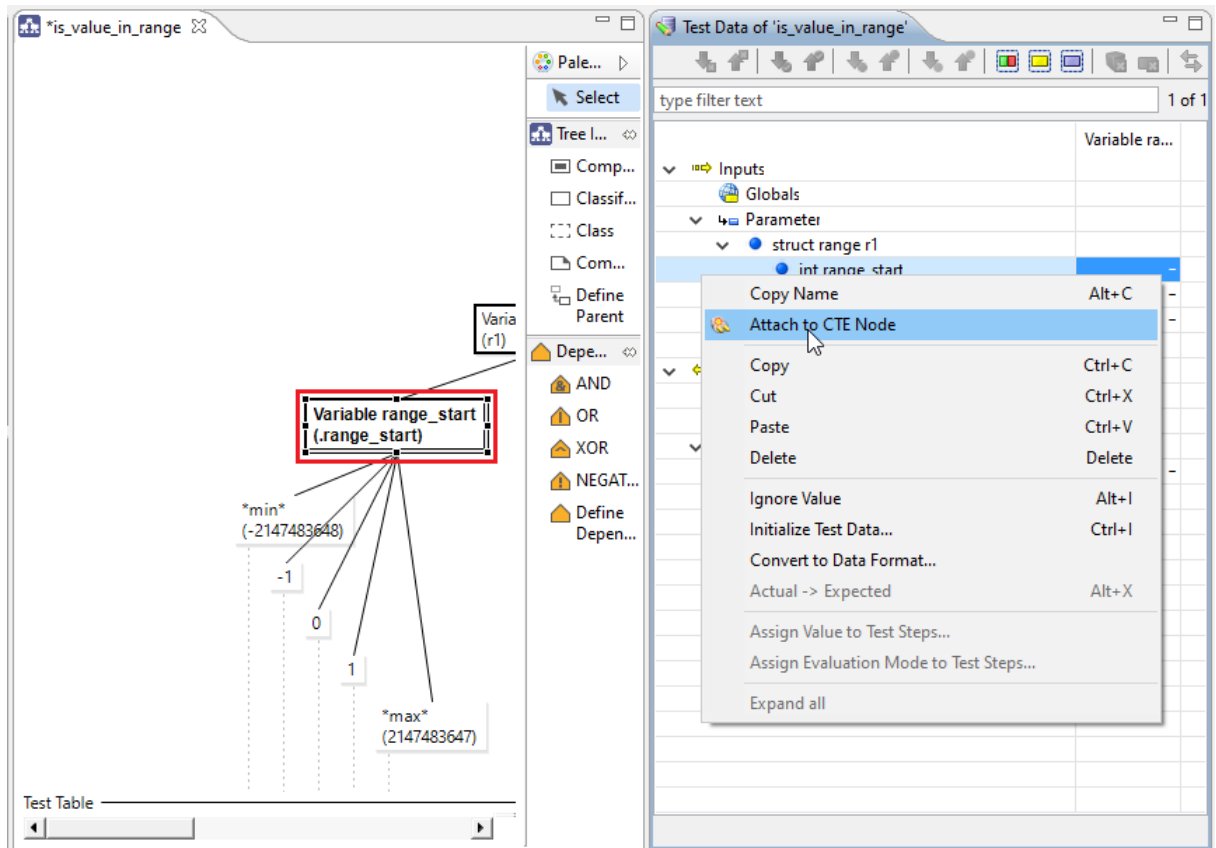

Figure 6.191: Attaching an interface element to a tree node
- Select tree node element in the tree area (see figure 6.191).